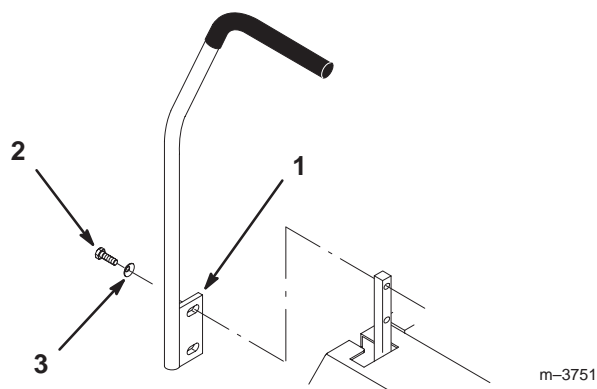

Figure 3
1. Remove the (4) 3/8–16 x 1” (26 mm) bolts and (4) 3/8” spring washers which attach the motion control levers to the control arm shafts for shipping (Fig. 3).
2. Place the levers (with the mounting plate toward the rear) on the outside of the control arm shaft and secure with (4) 3/8–16 x 1” (26 mm) bolts and (4) 3/8” spring washers (Fig. 3).
4. Align the front/rear position of the levers, with each other, in the neutral position. Loosen hardware and adjustment by sliding/tilting the lever(s) forward or backward until properly aligned (Fig. 3).